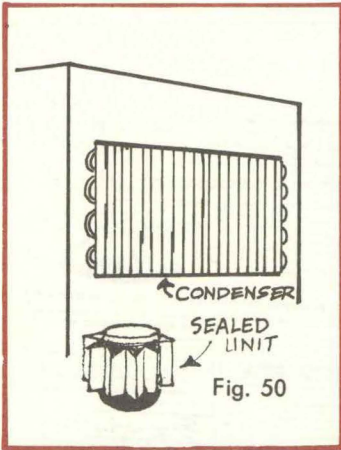

Fig. 50
1. Lubrication: Sealed units as shown in Fig. 50 require no oiling, as oil has been sealed in the unit at the factory.